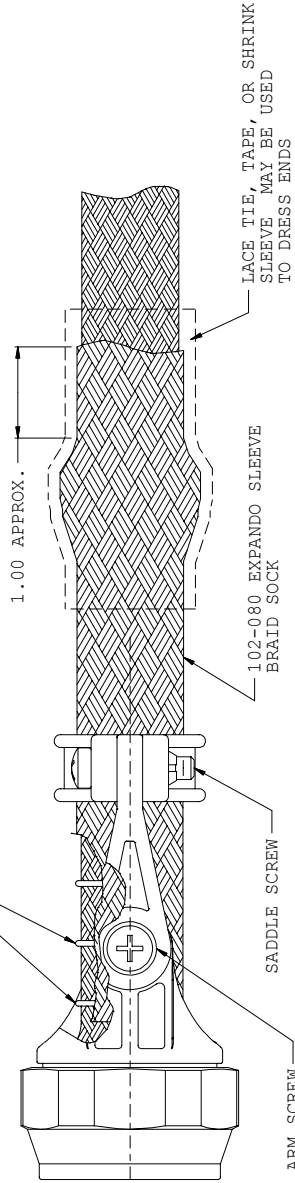

FIGURE 5
12. PLACE LACING CORD, HIGH TEMPERATURE TAPE, OR HIGH TEMPERATURE PLASTIC TY-STRAPS IN 1.00 INCREMENTS STARTING AT THE BRAID TRANSITION REAR OF THE BACKSHELL TO SECURE OVER BRAID ON WIRE BUNDLE. COVER OVER BRAID WITH 102-080 BRAID SOCK EXTENDING APPROXIMATELY 1.00 INCHES PAST SHIELD SUPPORT RING. (FIGURE 5) OPTIONAL